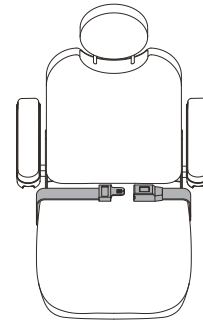

Figure 8. Positioning Belt Adjustment
Your power chair may be equipped with a positioning belt that can be adjusted for operator comfort. See figure 8. The positioning belt is designed to support the operator so that he/she does not slide down or forward in the seat. The positioning belt is not designed for use as a restraining device.
1. Once seated, insert the metal tab on one side of the belt into the plastic housing on the opposite side until you hear a click. **See figure 8.**